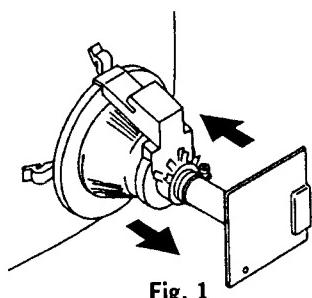

Fig. 1
- Move the deflection yoke forward, and adjust so that entire screen becomes green. (Fig.1)